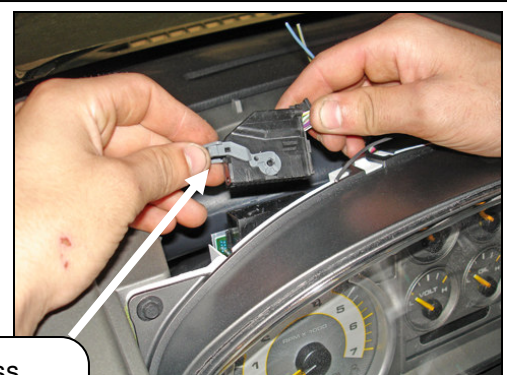

Figure 6
6. Disconnect the wire harness from the LH side of the gauge cluster by moving the connector lock lever to the left (see Figure 6).